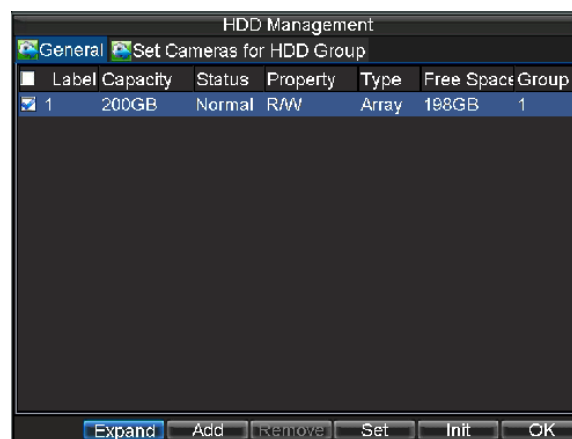

Figure 8. Expand HDD Capacity
3. Click the **Expand** button to start capacity expansion, as shown in Figure 8.